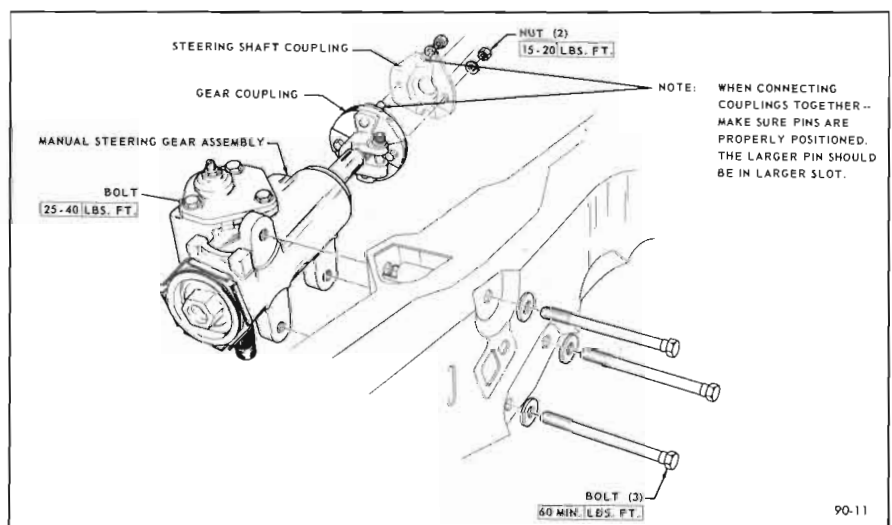

Figure 90-11—Manual Steering Gear Installation (43-44-45-46000 Series)
3. Remove three steering gear to frame bolts and remove gear assembly. See Figure 90-11.